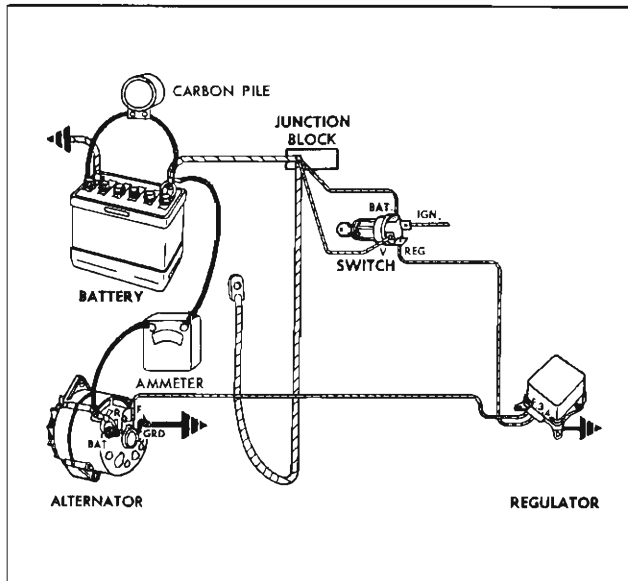

Fig. 11-25 Ammeter Measuring Output
4. Disconnect ammeter lead from alternator output lead and connect ammeter lead to positive terminal of battery (Fig. 11-25).